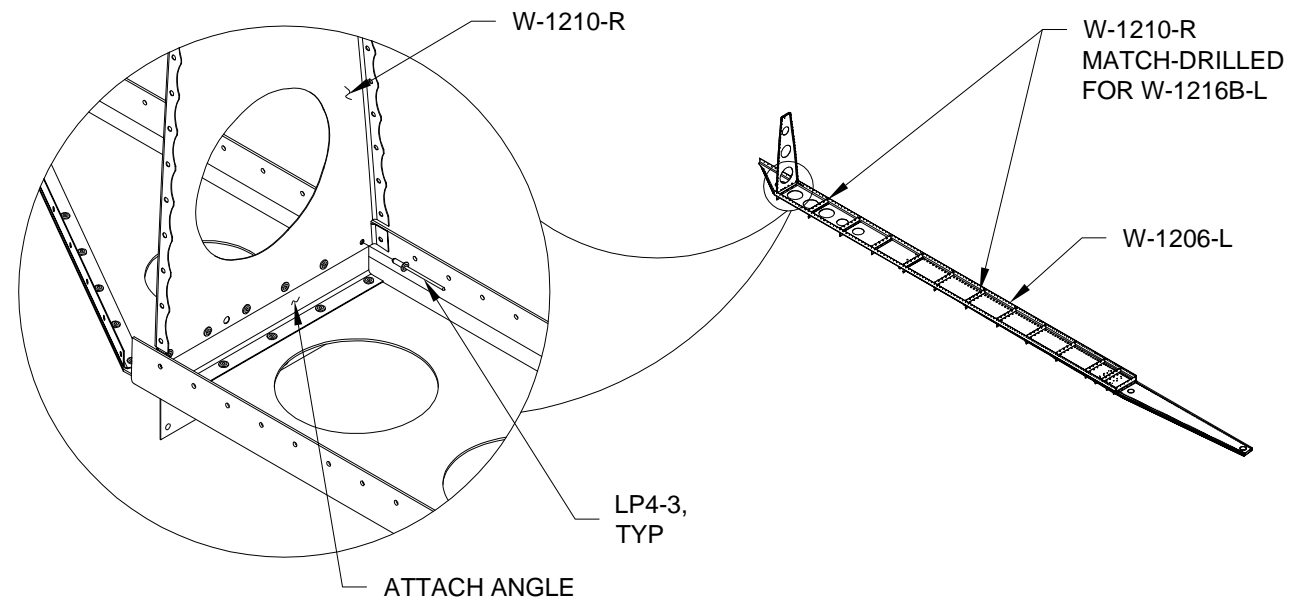

FIGURE 1: ATTACHING THE MAIN RIBS
Step 1: Lay the W-1206-L Spar Assembly on the work surface with the flanges facing up. Select one of the W-1210-R Main Ribs and cleco then rivet to the furthest outboard attach angle on the spar assembly as shown in Figure 1.
Step 2: Take one W-1210-R Main Rib which was match-drilled to the W-1216B-L Hinge Rib and cleco then rivet to the next inboard attach angle on the W-1206-L Spar Assembly as shown in Figure 1.
Step 4: Cleco then rivet the remaining W-1210-R Main Rib which was match-drilled to the W-1216B-L Hinge Rib to the next inboard attach angle on the W-1206-L Spar Assembly as shown Figure 1.